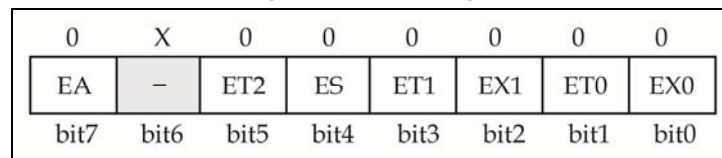

Fig. 1.8.1(b)
- Fig. 1.8.1(b) shows the bit arrangement of IE register.